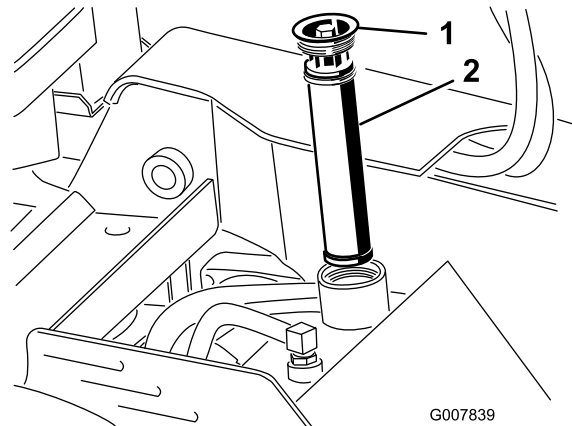

Figure 18
5. Clean the area around the filler neck of the hydraulic tank and remove the cap and filter from the filler neck using a socket (Figure 18).